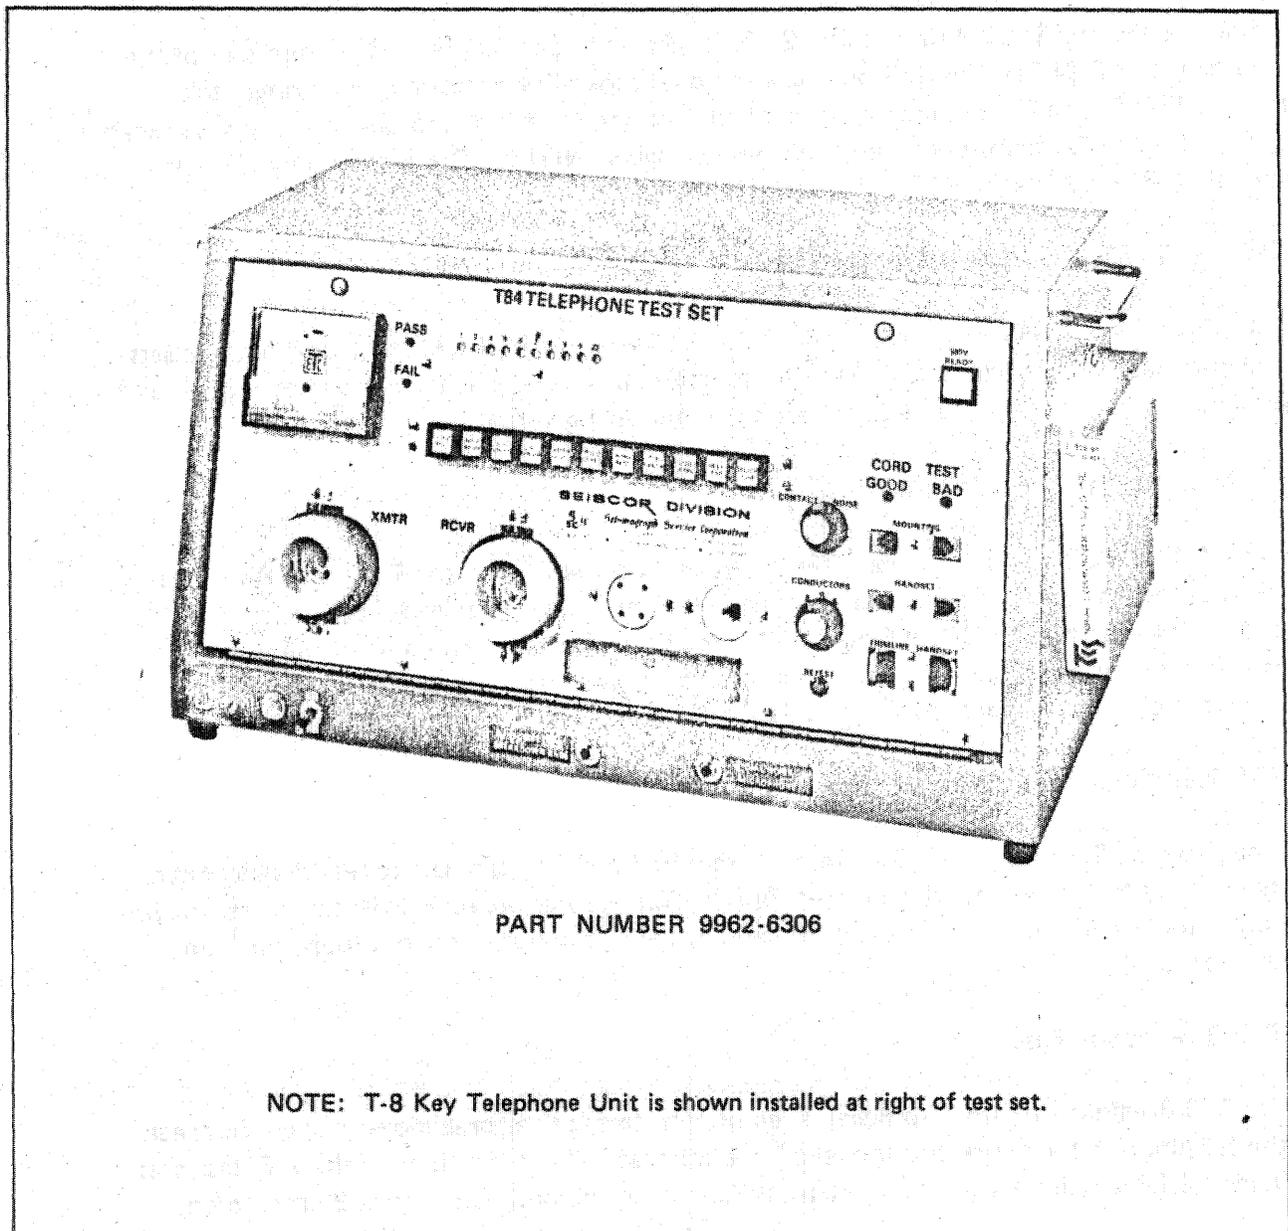

Fig. 1 — Seiscor T-84 Telephone Test Set
- 3.01 The T-84 Test Set is shown in Fig. 1. This unit is completely solid state in design and contains all of the controls, indicators, test connectors, and handset acoustic couplers required to test the equipment listed in Table A (or equivalent equipment). The test panel of the unit is designed to enable test personnel to quickly connect and test telephone equipment in a simple, logical sequence of steps. PASS/FAIL indications are provided by Light Emitting Diodes (LED's) and a